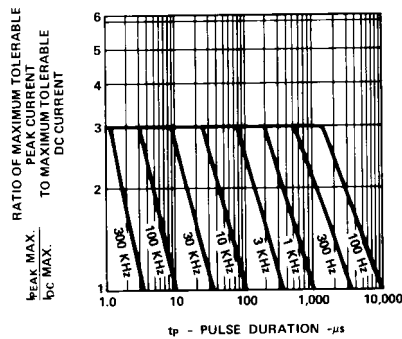

Figure 5. Maximum Tolerable Peak Current vs. Pulse Duration. ($I_{DC\text{ MAX}}$ as per MAX Ratings)
- See Figure 5 (HER/Orange), 10 (Yellow), or 15 (Green/Emerald Green) to establish pulsed operating conditions.